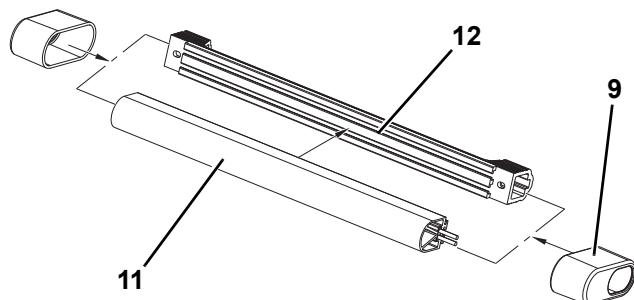

Figure 4-42.
2. Align and attach Platform Sensor Mount (**12**) onto the SkyGuard Switch (**11**) as shown in *Figure 4-42*.
3. Attach Platform Sensor Covers (**9**) to SkyGuard switch assembly at both ends. See *Figure 4-42*.